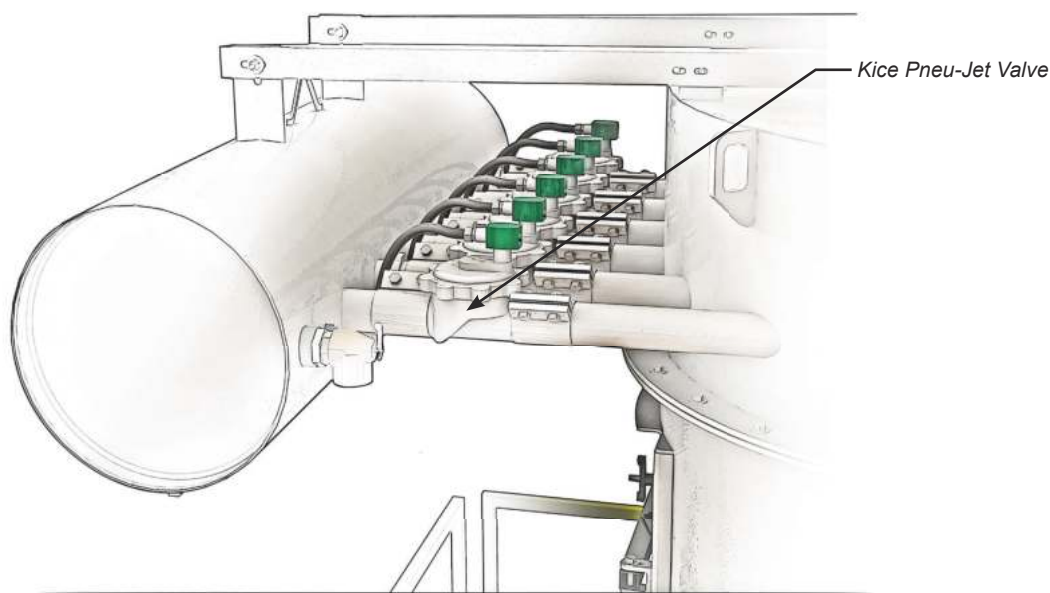
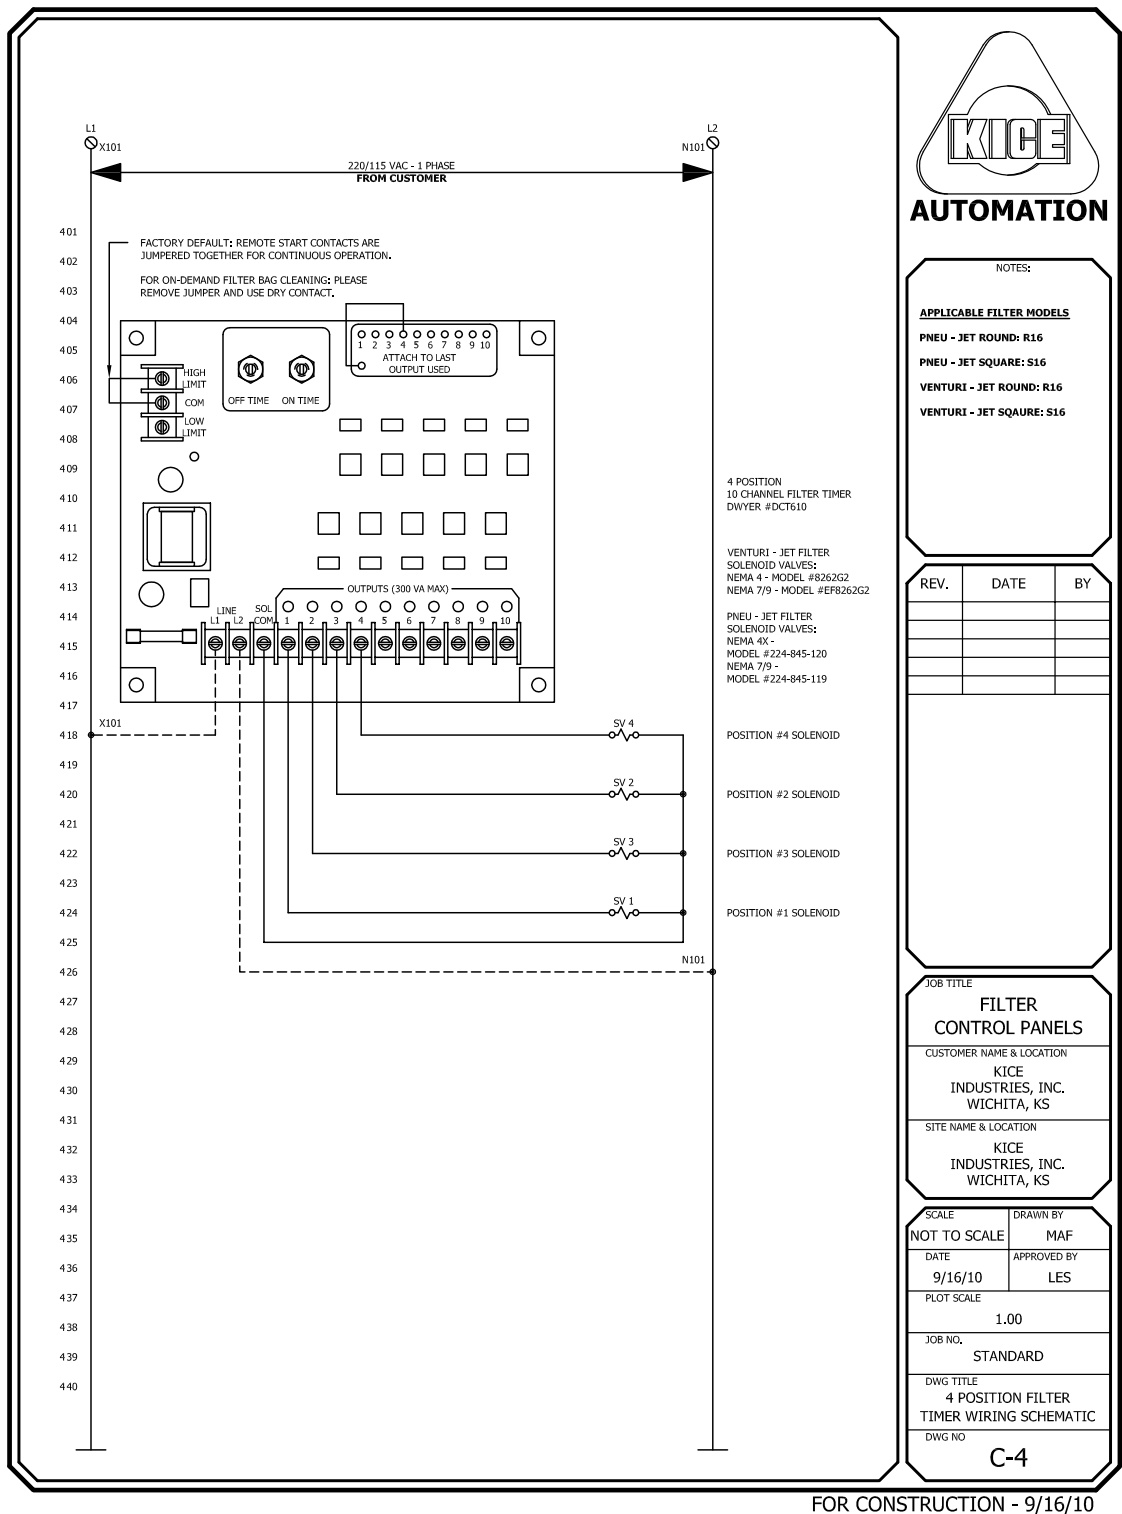

FIGURE 12
FIGURE 14
**NOTICE:** Reference Figure 14 in the Operating Logic section for example wiring diagram.
The complete Kice Pneu-Jet filter control circuit is shown on (Figure 14) on page 22. The Pneu-Jet valves are mounted between the air tank and the cleaning manifolds. (Figure 12) These valves are an exclusive Kice design to provide a high-energy release of air that is used for cleaning the filter media. The Pneu-Jet valve is a 2 way normally closed, diaphragm type valve utilizing a spring and air pressure above the diaphragm to cause the diaphragm to seal. When the pressurized air above the diaphragm is exhausted to atmosphere, the diaphragm lifts to the open position, discharging the pressurized air (10-15 psig) into the cleaning manifold in a fraction of a second.
Reference the Dwyer Electronic Controller Schematic (Figure 14) on page 22 for more detail.
Reference the Ametek NCC Electronic Controller Schematic (see Figure 14) on page 22 for more detail.
3. Controls should be wired in accordance with schematic diagram (Figure 14). Square and round model filters are normally pre-wired, fully assembled and tested at the factory. Check all wiring connections to assure proper bag cleaning sequence. The air tank pressure gauge should have a working range of 0-30 psig.